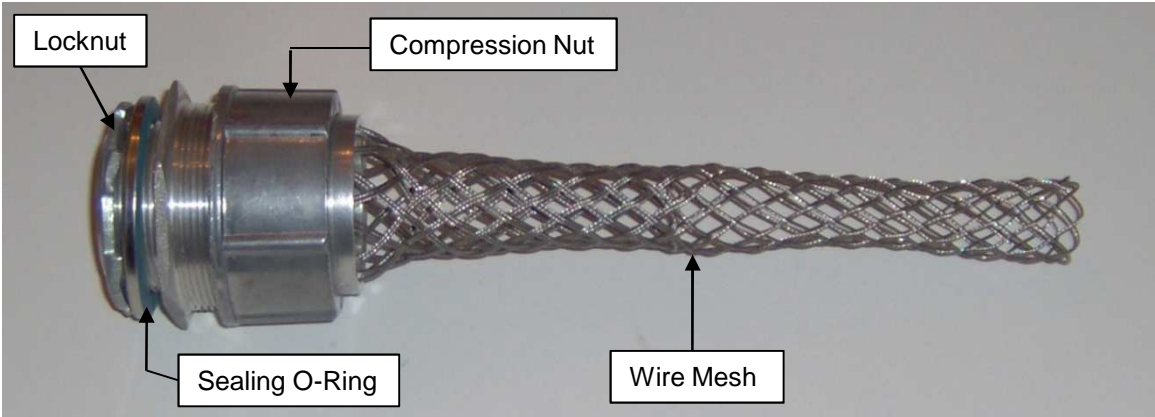
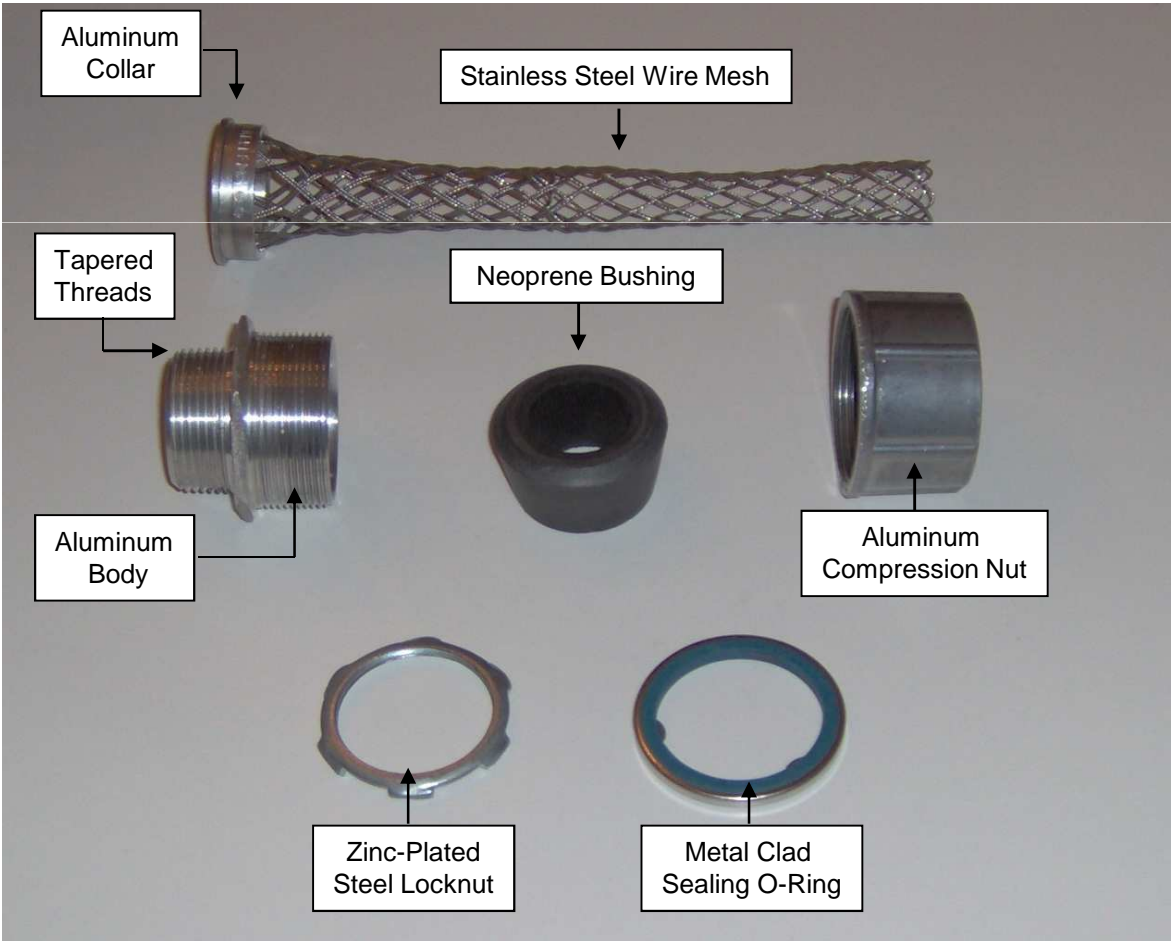

Figure 2
Figure 3
5.1 See Fig. 2 and Fig. 3 for a typical Liquid-Tight Kellems Grip layout.